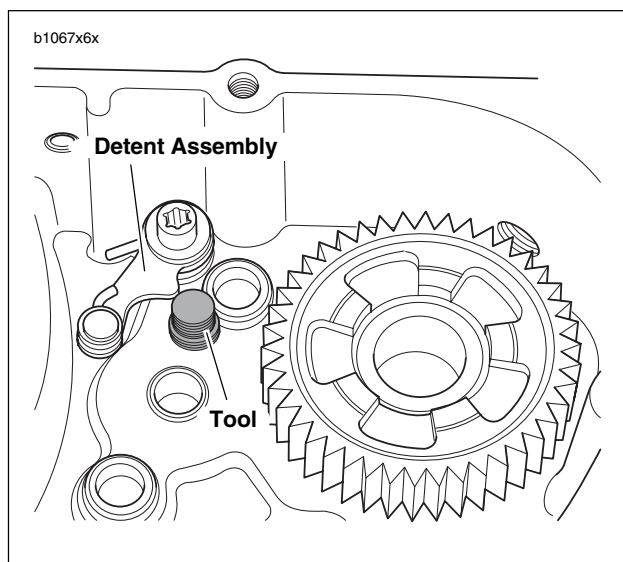

Figure 6-89. Gear Detent Assembly Aid (Part No. B-45520)
2. See Figure 6-89. Retract detent assembly in right case half and install GEAR DETENT ASSEMBLY AID (Part No. B-45520) until it has bottomed in right case half.